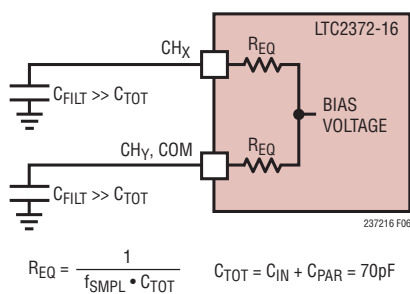

Figure 6. Equivalent Circuit for the MUX Analog Inputs of the LTC2372-16 at 500ksps
**Fully Averaged:** Consider the case where MUXOUT+/- is directly wired to ADCIN+/-. If the coupling filter's capacitors (CFILT) at the MUX analog inputs are much larger than the sum of the ADC's sample capacitors (50pF) and the MUX's output summing node capacitances (20pF), then the sampling glitch is greatly attenuated. The driving amplifier effectively only sees the average sampling current, which is quite small. At 500ksps, the equivalent input resistance is approximately 28k (as shown in Figure 6), a benign resistive load for most precision amplifiers. However, resistive voltage division will occur between the coupling filter's DC resistance and MUX's equivalent (switched-capacitor) input resistance, thus producing a gain error.